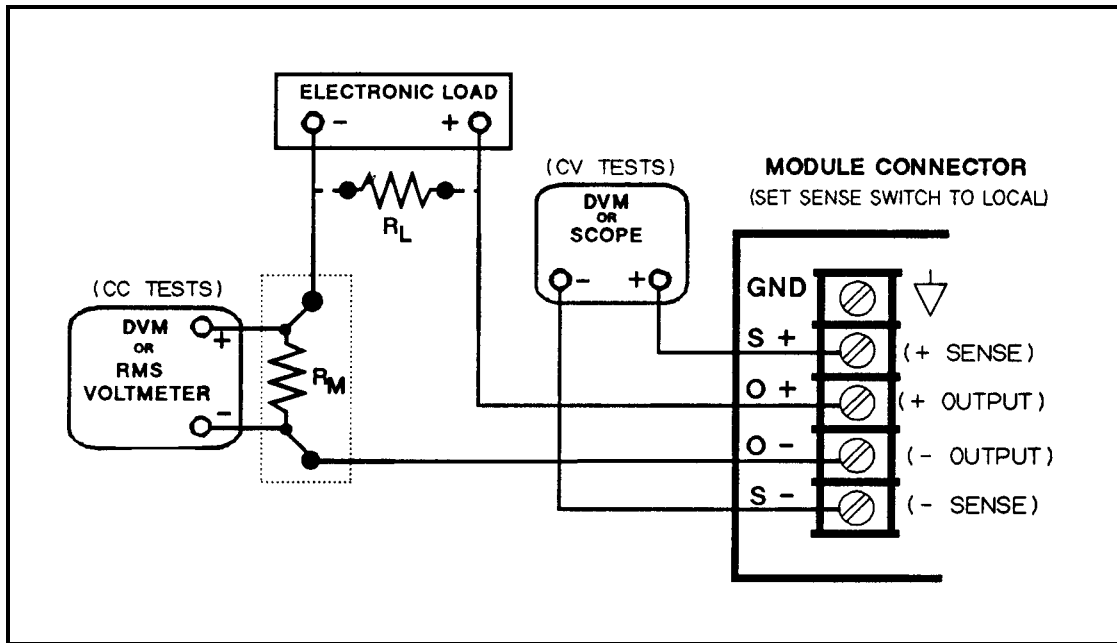

Figure 2-1. Performance Test Setup
To eliminate output current measurement error caused by voltage drops in the leads and connections, connect the current monitoring resistor between the output and the load as a four-terminal device (see  $R_M$  in Figure 2-1). Connect the current monitoring leads inside the load lead connections directly at the monitoring points on the resistor element.
1. Turn off the power module and connect a digital voltmeter between the + **S** and -**S** terminals (see Figure 2-1).
1. Turn off the module and connect the output as shown in Figure 2-1 with the DVM connected between the + **S** and - **S** terminals.
6. The difference between the DVM readings in steps (4) and (5) is the load effect voltage and should not exceed the value listed in the Performance Test Record Tables under CV LOAD EFFECT, for the model being tested.
2. Connect the output as shown in Figure 2-1 with the DVM connected between the + **S** and - **S** terminals. Set the transformer to nominal line voltage (either 115Vac or 230Vac).
9. The difference between the DVM readings in steps (6) and (8) is the source effect voltage and should not exceed the value listed in the Performance Test Record Tables under CV SOURCE EFFECT, for the model being tested.
1. Turn off the module and connect the output as shown in Figure 2-1 to an oscilloscope (ac coupled) between the + and-- terminals. Set the oscilloscope's bandwidth limit to 20MHz (30MHz on the HP 54504A) and use an RF tip on the oscilloscope probe.
1. Turn off the module and connect the output as shown in Figure 2-1 with the oscilloscope across the + **S** and -**S** terminals.
1. Turn off the module and connect the output to be tested as shown in Figure 2-1 with the voltmeter connected across the current monitoring resistor.